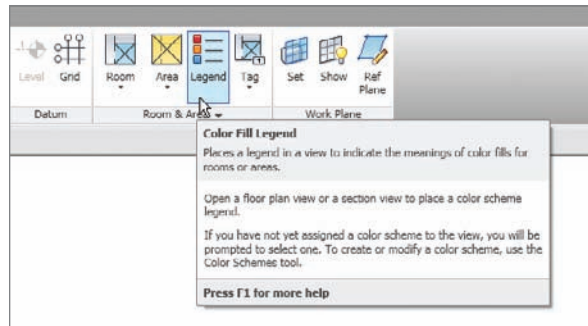

FIGURE 15.21 Clicking the Legend button
6. In the Room & Area panel of the Home tab, click the Legend button, as shown in Figure 15.21.
7. After you click the Legend button, you can place the legend into the model. Place it into the upper-right corner of the view (inside the crop region), as shown in Figure 15.21.